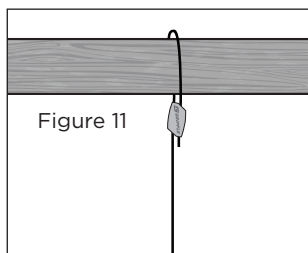

Figure 11
10. Remove key and re-secure the load (see Figure 11).